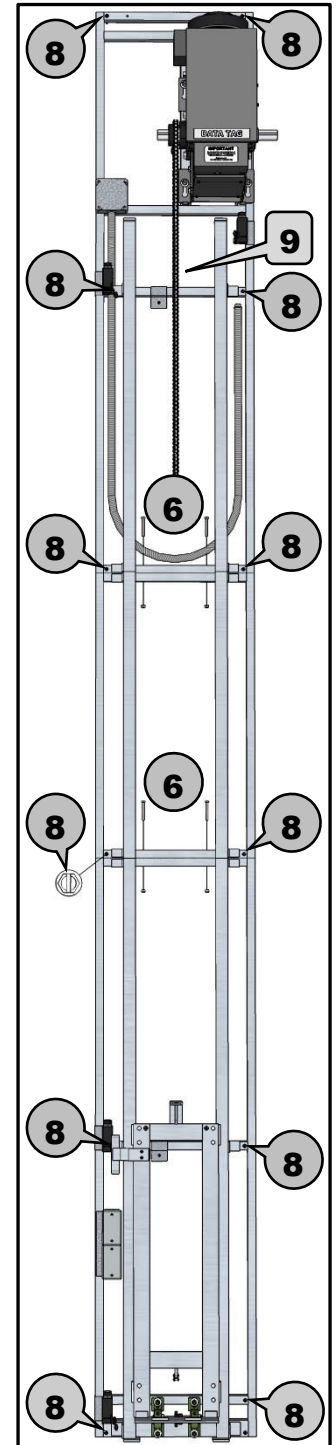

Figure 5
- 6** Use two (2) 1/4" x 2 1/4" bolts & nuts to fasten sections together. (**see Figure 5**)
- 8** Use provided 3" lag screws to fasten track & rail assembly to wall. (**see Figure 5**)